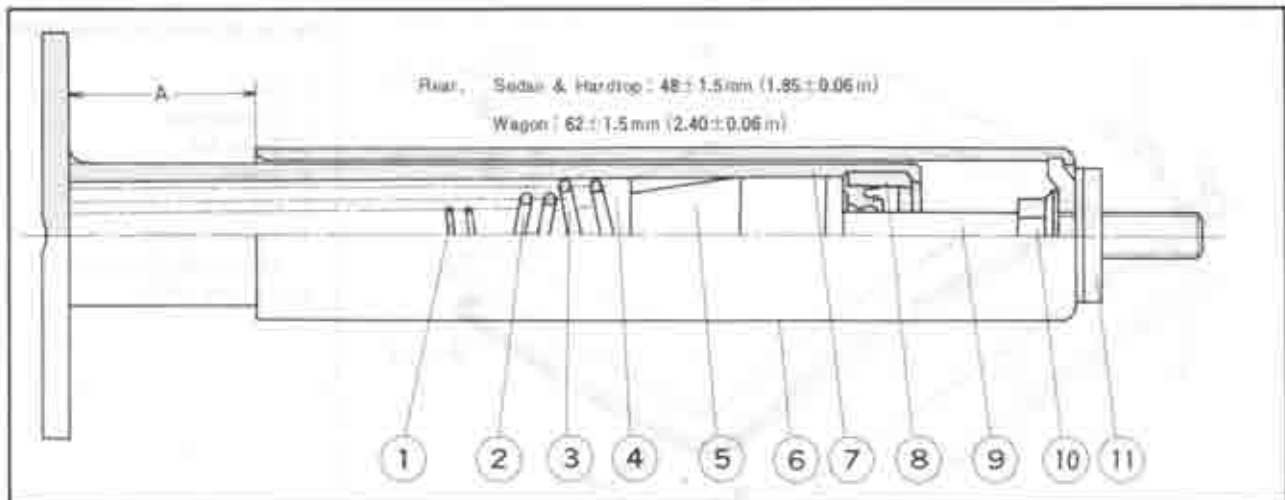

Fig. 14-13 Shock absorber
To check the shock absorber measure the dimension (A) shown in Fig. 14-13.